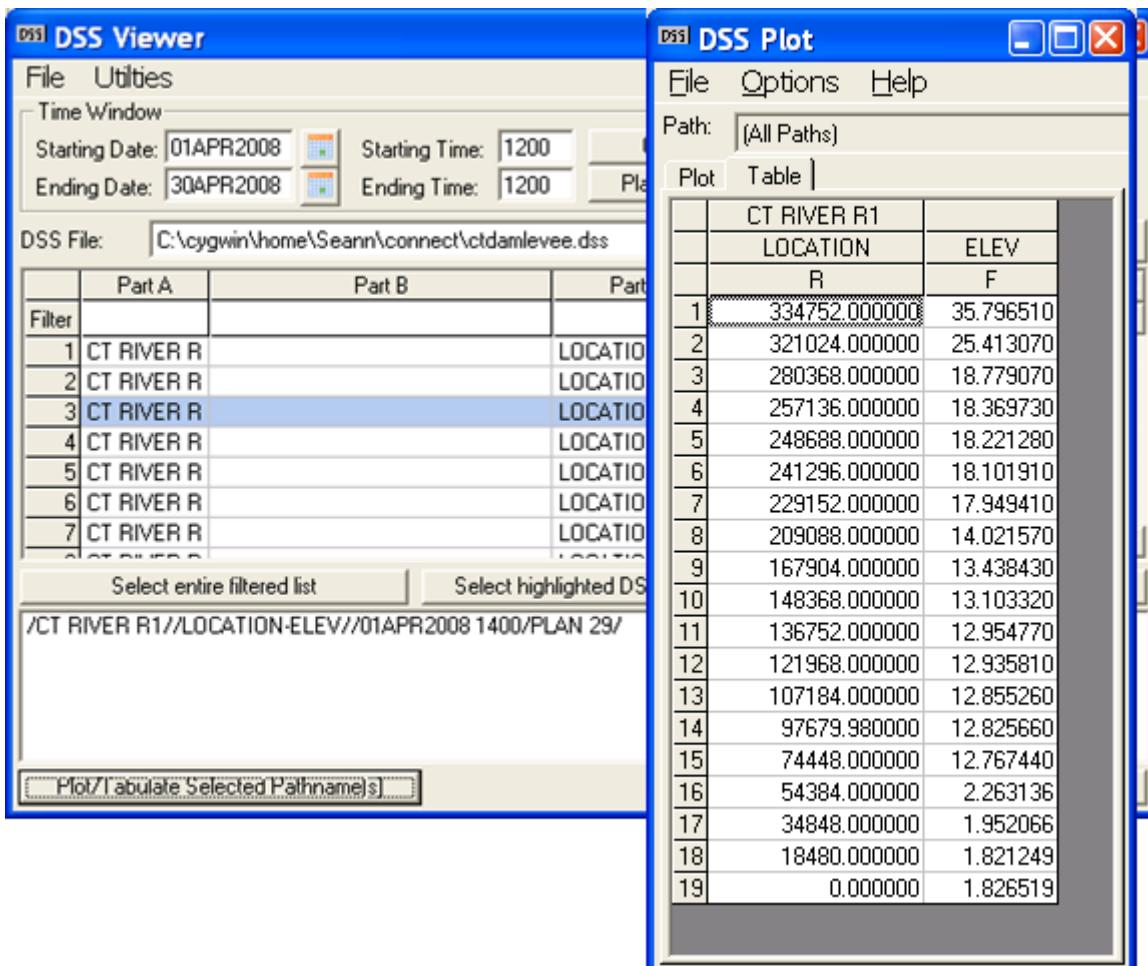

Figure 12: Chainages in HECRAS DSS file
The chainages and label name can be derived from the DSS output file (in Windows) by selecting one of the LOCATION-ELEV time series in the DSS viewer and copying the chainages from the table output to a spreadsheet. See Figure 12. The label name is constructed by added the reach name + underscore character+ chainage, eg. CT RIVER R1_18480.000000.
- (1) The amount of decimals should be equal to the label name in the output_profiles.xml, otherwise CHPS cannot import the time series. In the September 2011 version of the Adapter, the number of decimal places has been hardcoded to 6. To see the 6 decimal places you need in the DSS Viewer, select Options → Number of Decimal Places under the DSS Plot. Use of a large number of decimal places is an attempt to ensure that no duplicate point locations exist. Testing showed some models can have cross-sections that are very close together.
- (2) The FEWS Branches documentation indicates that the startChainage must be numerically greater than the endChainage and that each 'pt' must lie in-between these values. This is opposite from the tabular display shown in Figure 12. Therefore, the chainage should be reversed and entered from lowest to highest in the Branches.xml file as illustrated above.